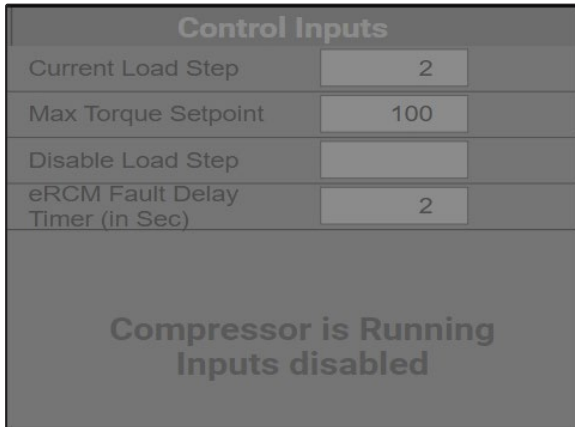

Figure 43
- In the Control Inputs section (see Figure 43):